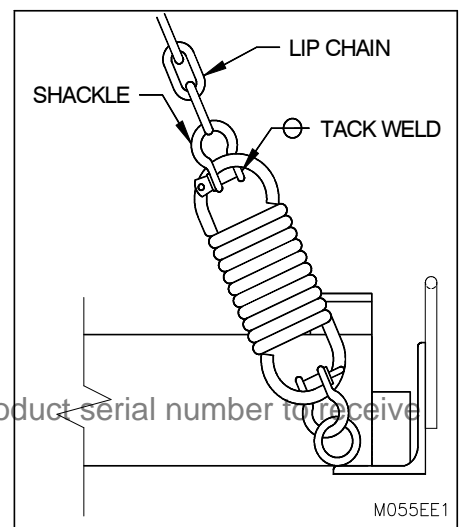

Figure 11: Tack Weld the Shackle
20. Tack weld the lip chain shackles closed to prevent tampering. (See Figure 11: Tack Weld the Shackle on page 8)
22. Tack weld the lip chain shackle closed to prevent tampering. (See Figure 11: Tack Weld the Shackle on page 8)